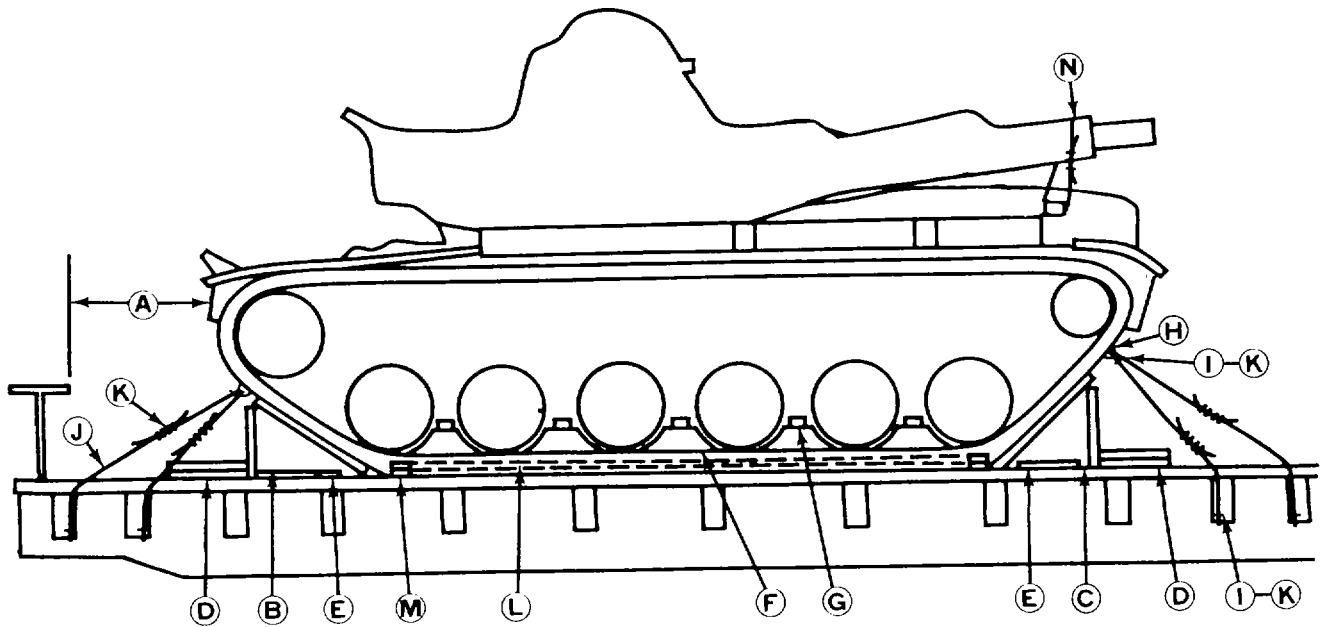

Figure 7-5. Blocking and tiedown for M60-series tank on general-purpose flatcar (side view).
c. Loads shown in figures 7-5 and 7-6 are based on a flatcar that is 10 feet 4 inches wide, minimum.
Blocking and tiedown (figures 7-5 and 7-6), are compatible with standard loading practices, and provide for adequate restraint against the forces encountered during movements at normal speeds. Blocking details are described in figure 7-7. Application of materials for loading and securing the vehicle on the flatcar is shown in table 7-7.
Table 7-6. Bill of Materials for Blocking and Tiedown of M60-Series General-Purpose Flatcar (Figs. 7-5 and 7-6)
Table 7-7. Application of Materials for Loading and Securing MO60-Series Tanks on General-Purpose Flatcar (Figs. 7-5, 7-6, and 7-7)
Table 7-7. Application of Materials for Loading and Securing M60-Series Tanks on General-Purpose Flatcar (Figs. 7-5, 7-6, and 7-7)-Continued
e. Bill of materials for blocking and tiedown of two M60-series tanks on a 54-foot DODX flatcar is shown in table 7-6. Blocking and tiedown shown in figures 7-5 and 7-6 are compatible with standard loading practices and provide for adequate restraint against the forces encountered during movements at normal speeds. Blocking details are described in figure 7-7. Application of materials for loading and securing the tanks on the flatcar is shown in table 7-7.
Movement by this method of securement is designed to provide prompt movement over short distances from military installations to portside for shiploading. The M60-series tanks can be loaded on a railcar of adequate weight capacity that is a minimum of 10 feet 4 inches wide. Blocking and tiedown requirements are reduced from those shown in figures 7-5 and 7-6. Only items B, C, J, K, and N of table 7-5 are applied to provide adequate restraint against forces encountered during movements on controlled train service.
accomplished. Loading and placement of the M60-series tank on wood decked flatcar are as shown in figures 7-5 and 7-6. Blocking is applied as shown in A, B, C, D, E, L, and M of table 7-5. No tiedowns or road wheel blocks are applied.